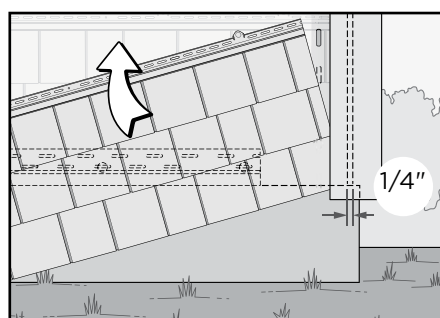

Figure 2
2. Starting on the right side of the wall, hook the bottom locking leg of the panel into the starter strip and slide panel into the cornerpost or receiving channel (Figure 2). Leave 1/4" space between the panel and the corner for expansion. If you are planning to install the Mitered Cornerpost, space the panel 2-3/4" from the corner.